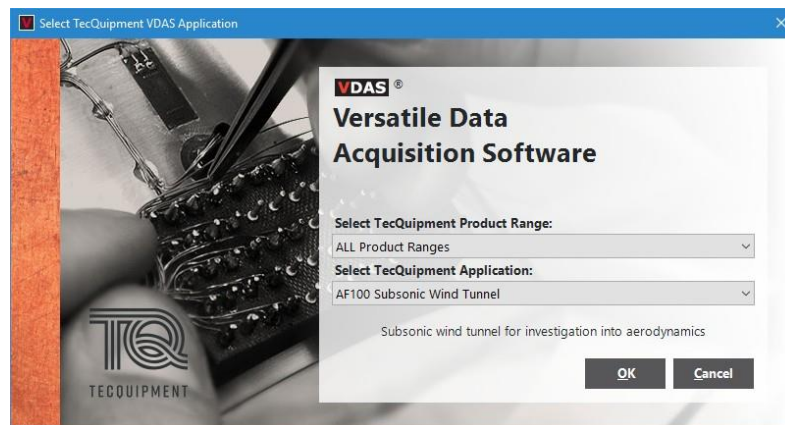

Figure 22 The 'Select TecQuipment Application' Screen
7. The first time that VDAS® is used, the software will show a 'Select TecQuipment Application' Screen (see Figure 22). Use this screen to select the TecQuipment VDAS® compatible product that the VDAS® Software is to be used with. The software will then load the correct settings and Layout for the product.